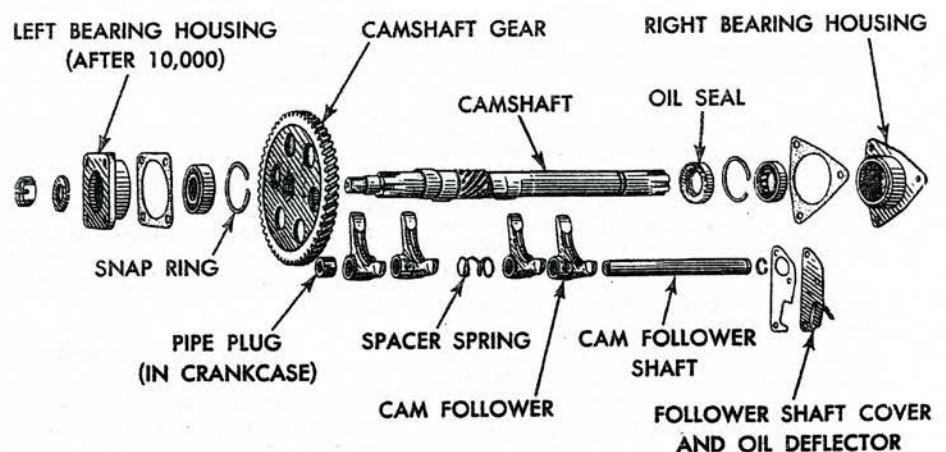

Fig. 8 Camshaft and related parts. Series H
**SERIES H**—Fig. 8. To remove the tappet levers (valve lifters), take off air cleaner, carburetor, exhaust pipe, fan shaft, rocker arms, crankcase cover and belt pulley assembly. Take off reduction gear cover and remove reduction gear. Unfasten tappet lever shaft cover, pull out tappet lever shaft and lift tappet levers through crankcase opening.
**SERIES H**—Fig. 8. The camshaft is mounted on ball and roller bearings and no adjustment for end play is required.